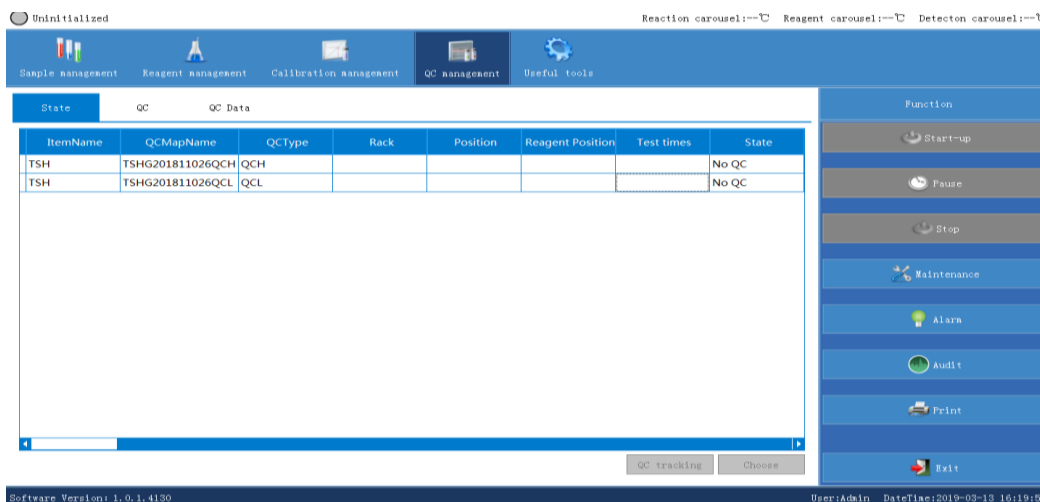
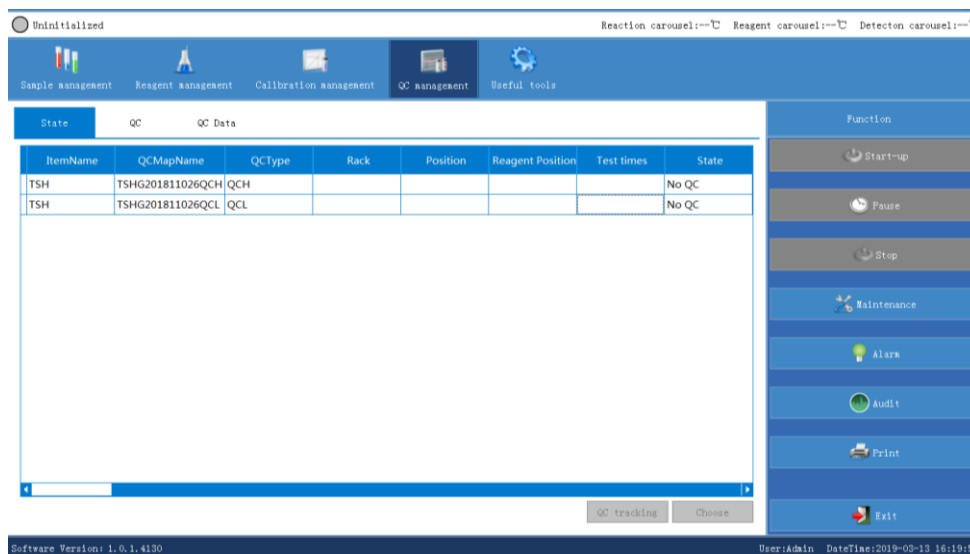

Figure 8.6.7 QC status management
Figure 8.6.8 QC tracking
- Select **Status** under **QC management** interface, as shown in Figure 8.6.7, the default reagent position can be selected for the QC item or it can be set up manually.
Select the QC item in the **QC status** interface as shown in Figure 8.6.7 and click **QC tracking**, a QC tracking window will pop up, as shown in Figure 8.6.8:
- Select the QC item in the **QC status** interface as shown in Figure 8.6.7 and double-click the rack number and position number of this item.